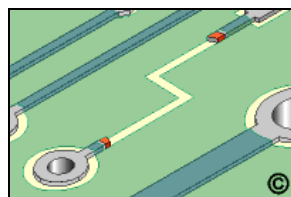

Figure 1: Scrape off any solder mask or coating from the ends of the remaining circuits.
3. Use a knife and scrape off any solder mask or coating from the ends of the remaining circuit. (See Figure 1)